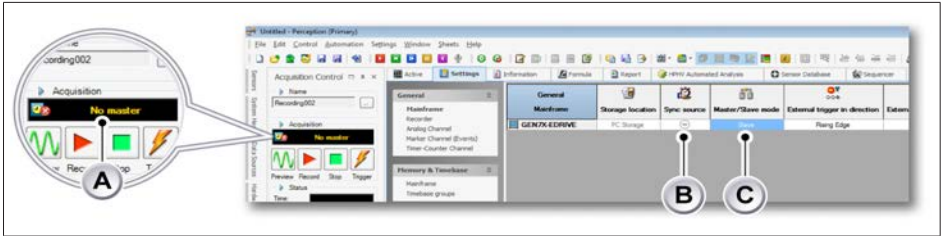

Fig. 15.25 Status - No master detected
- **No master** (see Fig. 15.25)